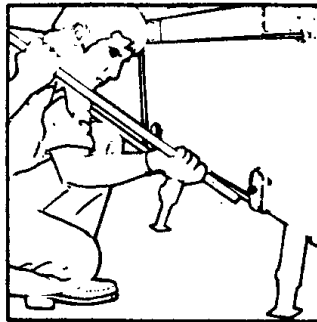

FIG. 10
26. Guide the end of the support over the support stud located on the bumper cap. (See Figure 10.)